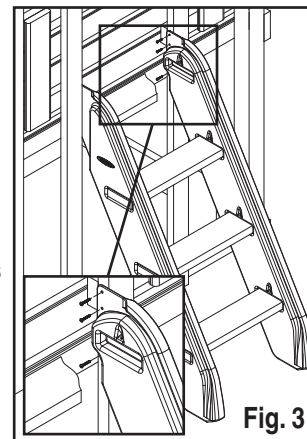

Fig. 3
**Note:** The steps must be positioned as specified, otherwise a head entrapment or tripping hazard could exist. Secure the Climbing Step Assembly to the play deck using three #14 x 1 1/4" pan head screws on each side as shown. (Fig. 3)